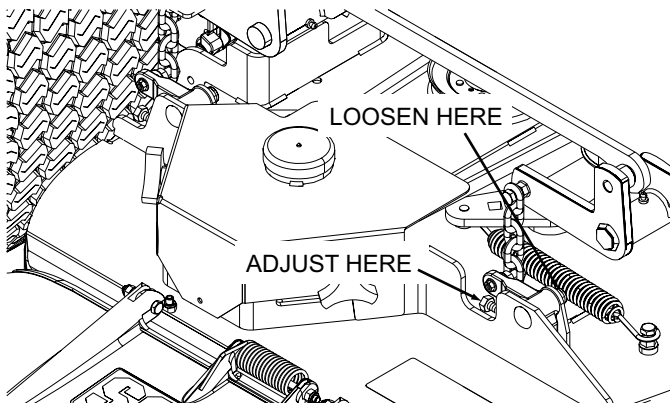

Figure 6-7. Cutter Deck Pitch Adjustment
3. Loosen the jam nuts on both ends of the deck height control rod. See Figure 6-7.
4. Turn the control rod (See Figure 6-7) until the measurement from the floor to the cutter blade tip is at 4-1/2". Tighten the jam nuts on the control rod.